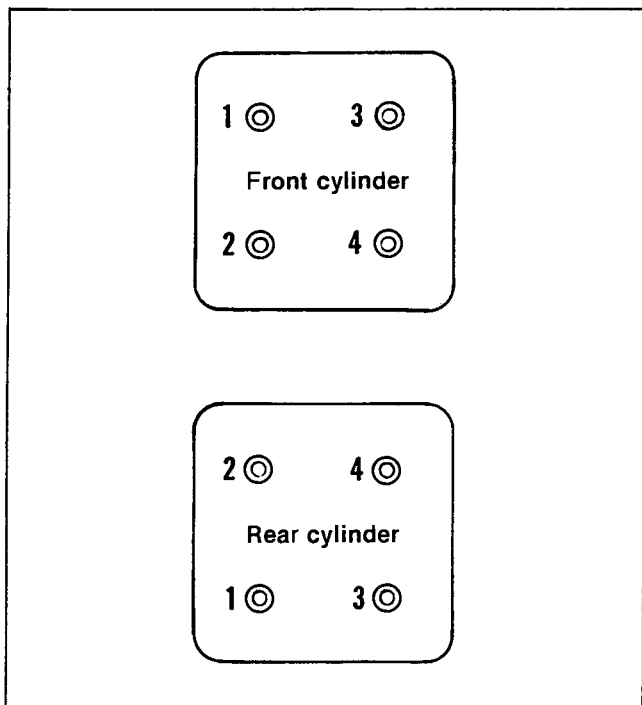

Figure 2. Torquing Sequence
1. Refer to Figure 2. With a torque wrench start at the head screw numbered "1" and tighten to a torque of 7 ft lbs. Then proceed to tighten "2", then "3" then "4", in order, to 7 ft lbs torque.